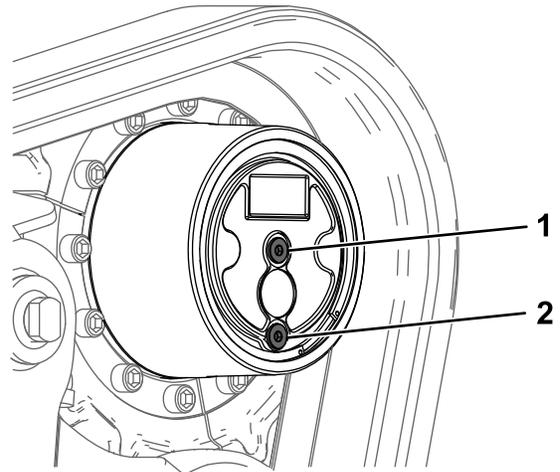

Figure 65
2. Park the machine on a level surface so that the drain plug is in the 6 o'clock position (Figure 65), engage the parking brake, and lower the loader arms.
5. Remove the check plug and the drain plug and allow the gear lubricant to drain (Figure 65).
6. Install the drain plug (Figure 65).